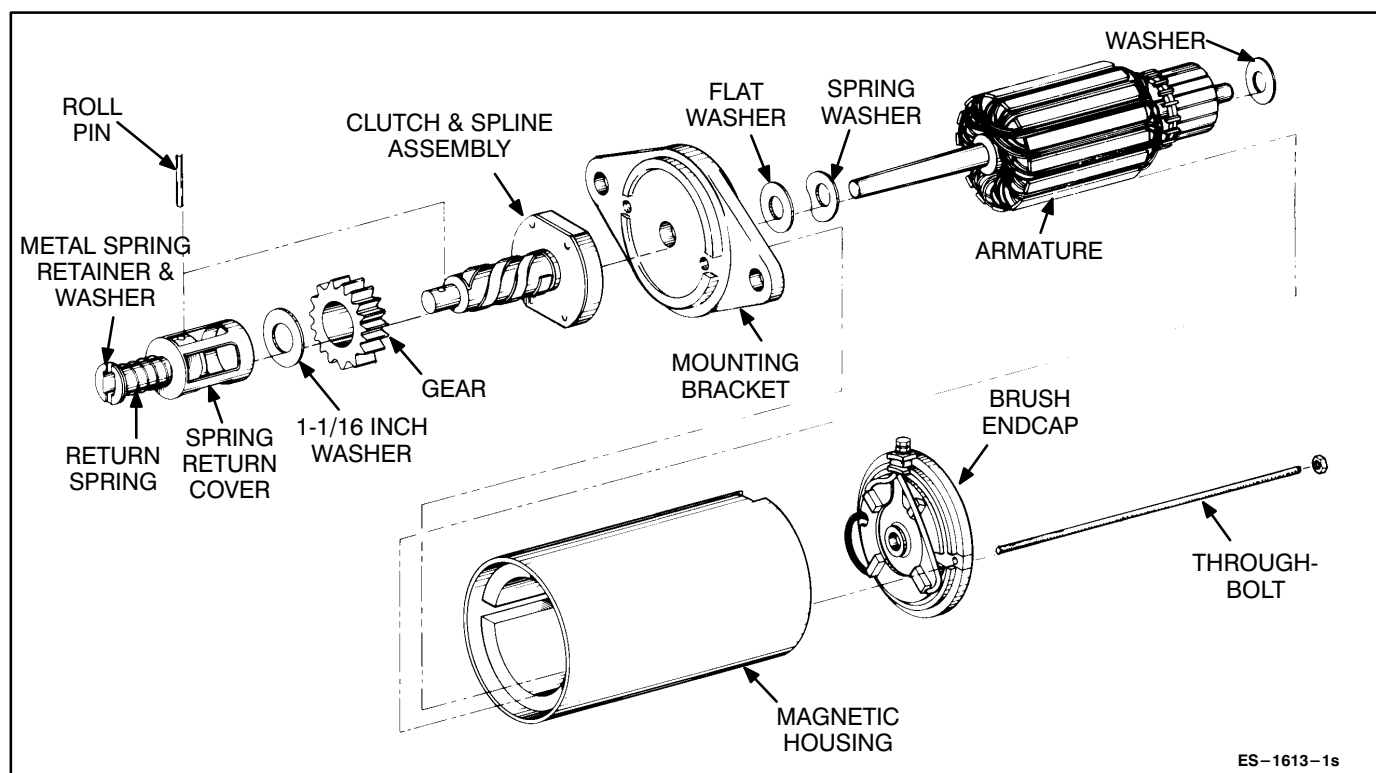

FIGURE 8-29. STARTER ASSEMBLY
1. Place a spring washer and a flat washer on the shaft, as shown in Figure 8-29.